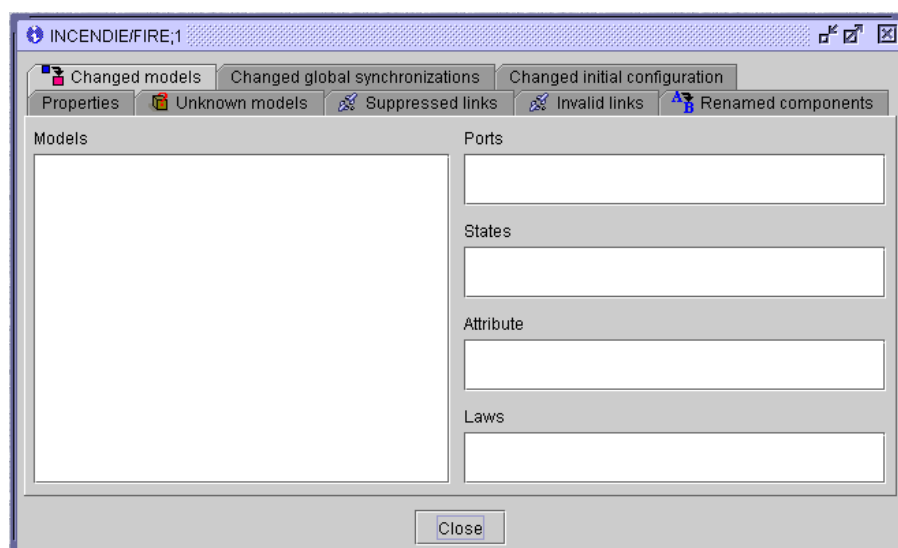

Figure 152 : Information – Changed Models tab
- Click on the **Changed models** tab; the window (Figure 152) indicates the models, the ports and the states, the attributes and the laws.
- Click on the **Changed global synchronizations** tab; the window (Figure 152) indicates the invalid laws.
- Click on the **Changed initial configuration** tab; the window (Figure 152) indicates the unknown attributes and the invalid event laws.